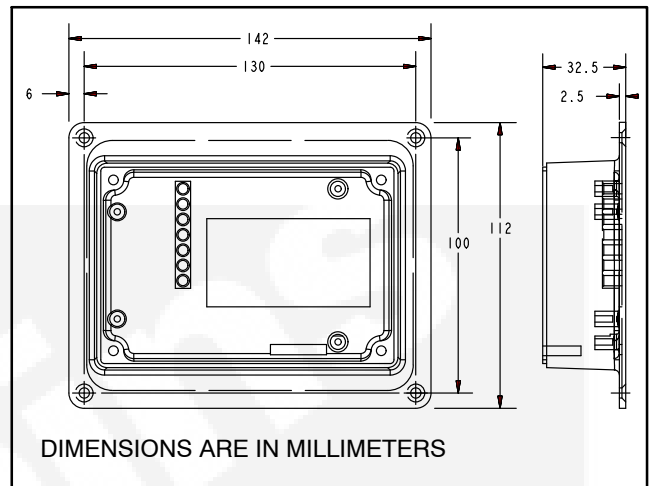

FIGURE 3-16. OPERATOR PANEL FOOTPRINT
- a. Select a suitable location and mount the panel using #6-32 hardware. Figure 3-16 shows the operator panel dimensions. The operator panel must be mounted within 72 inches (1828.8 mm) of the control board.